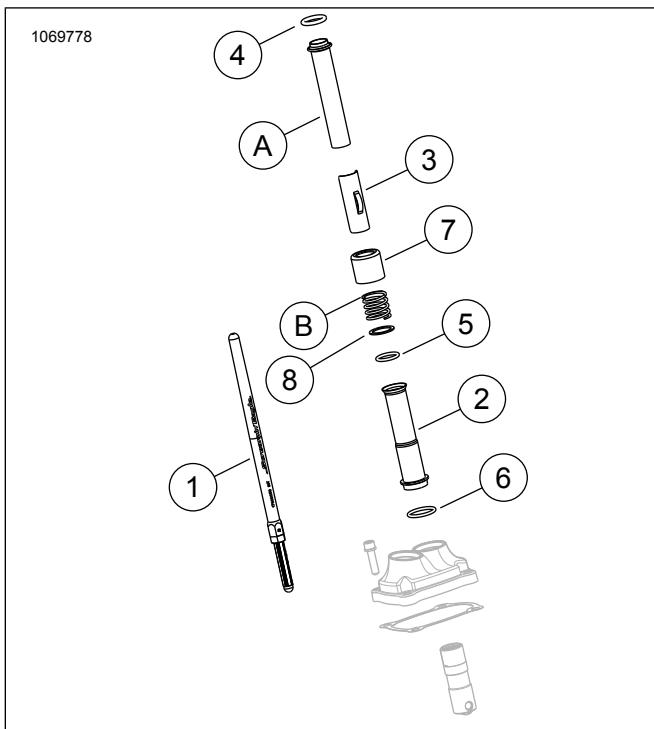

Figura 5. Parts tas-Service
Ara Figura 5 u Tabella 1.
5. Ara Figura 3 u Figura 5 . Installa l-intake pushrods fil-covers tal-pushrods. Biddel l-O-Rings, il-covers tal-pushrods t'isfel u l-cover keeper tal-molla ma' komponenti ġoddha fornuti fil-kit. Kun cert li t-tarf tal-aġġustatur tal-pushrod huwa isfel.